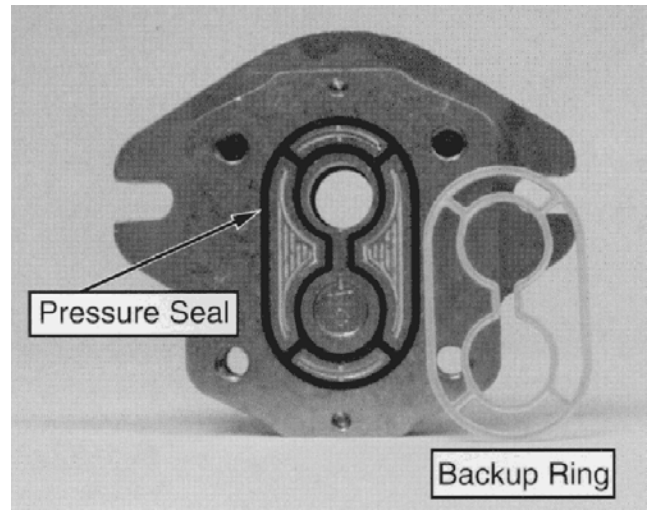

Figure 83
9. Carefully remove and discard O-rings, pressure seals and back-up rings (Fig. 83) from motor. Do not cause any damage to the machined grooves during the removal process.